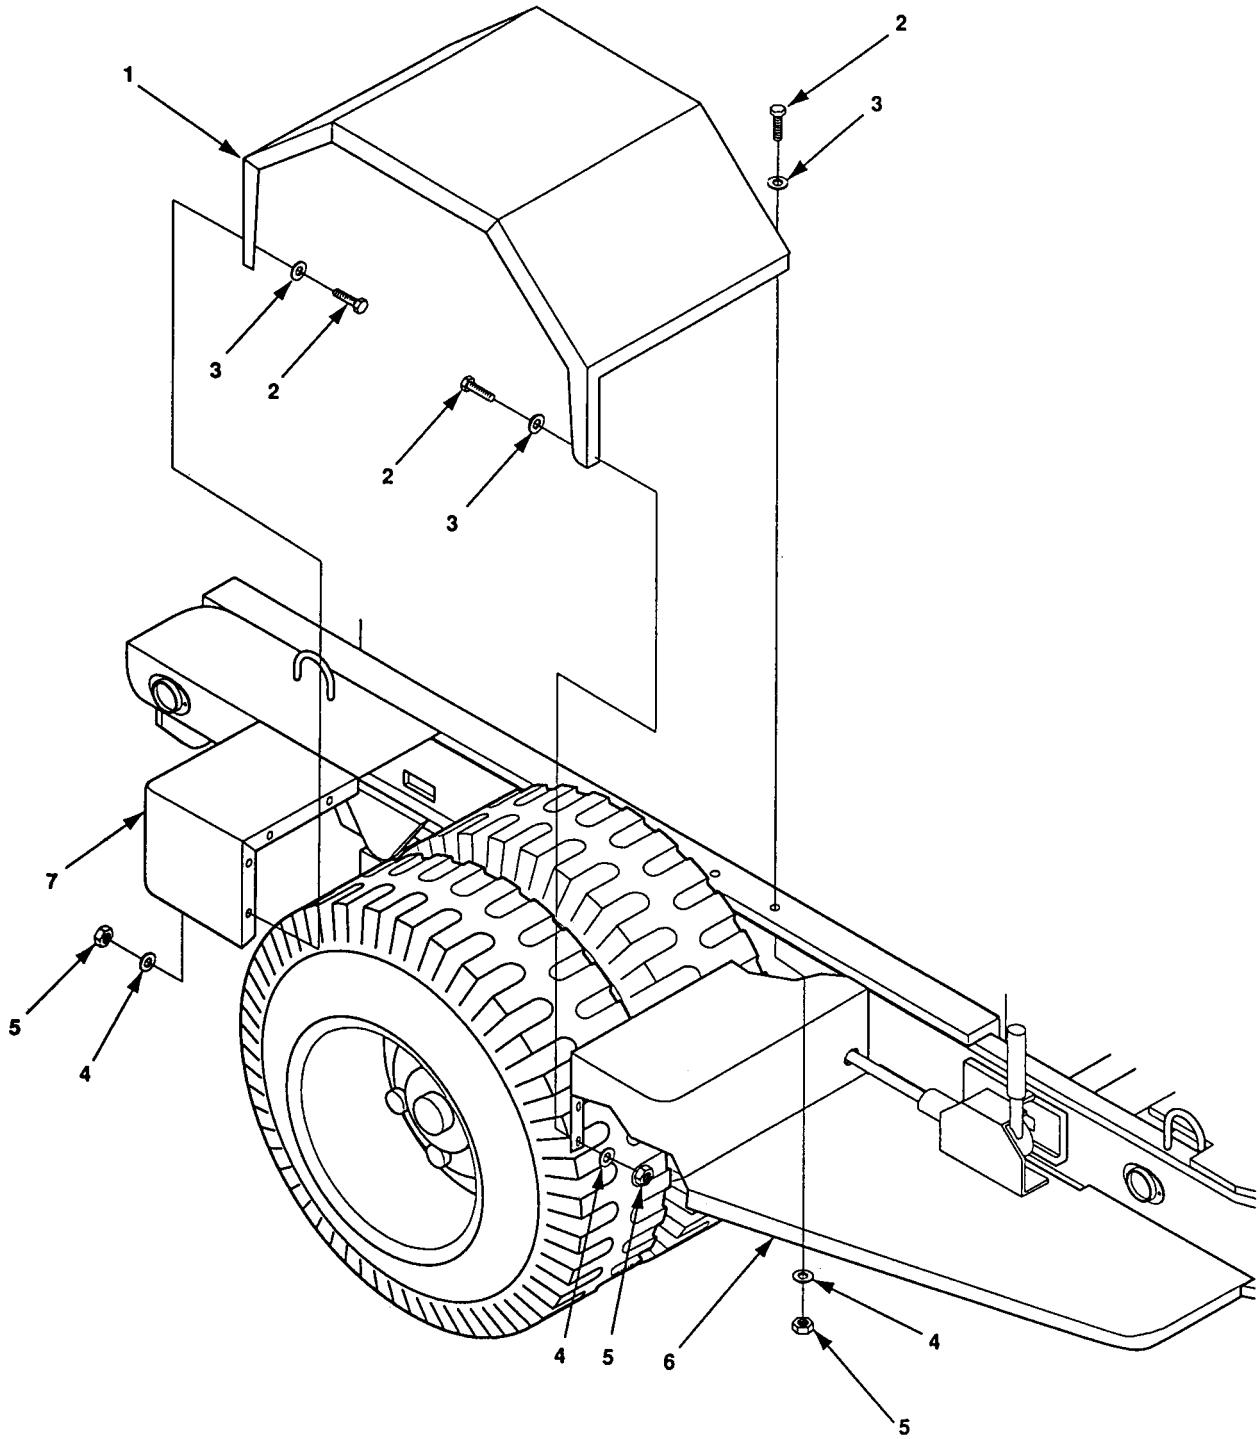

Figure 4-20. Fender Replacement, 2 1/2 Ton Trailer
1. Remove seventeen self-locking nuts (5, figure 4-20), flat washers (4), bolts (2), and flat washers (3) securing fender (1) to trailer frame. Discard self-locking nuts.
2. Remove fender (1).